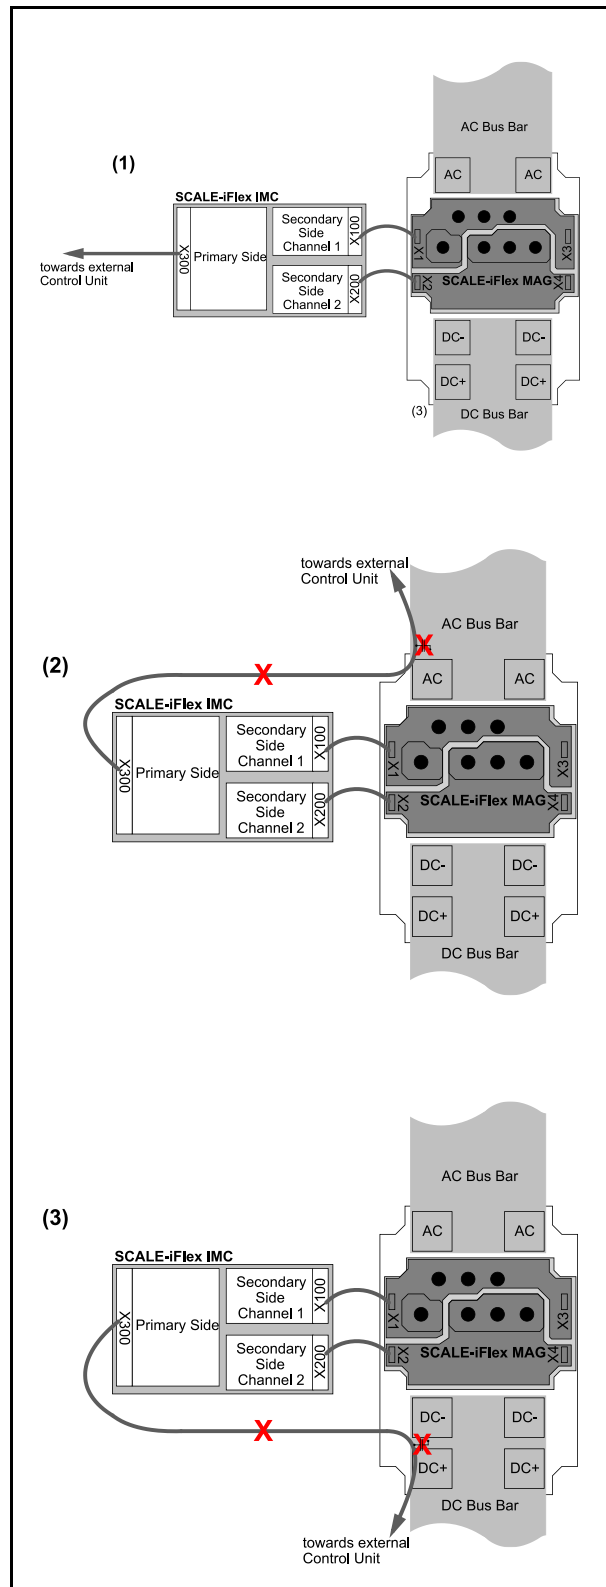

Figure 14. IMC to Controller Cable Routing
All connections shall be assembled in non-powered status of the system only. The cable from IMC (connector X100/X200) to the system level controller is not part of the SCALE-iFlex gate driver and has to be provided by the designer of the system. It is recommended to route the cable with minimum parasitic coupling from the controller to the IMC. Parasitic coupling in particular to any potential of the secondary-side of the IMC (i.e. high voltage side as shown in Figure 14) has to be avoided. Otherwise, increased common-mode currents may circulate, which may cause interferences with command, measurement and/or status feedback signals. Therefore, the cable routings (2) and (3) of Figure 14, which are in proximity to the high voltage side, are not allowed. Instead the routing (1) has to be implemented. This provides safe distance towards the high voltage side.